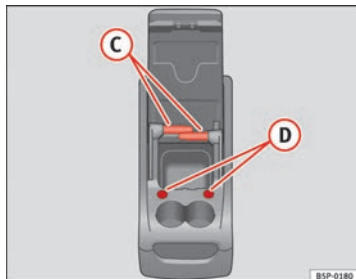

Fig. 114 Mobile storage compartment. Functions
To use the table (C) ⇒ fig. 114, it must be removed from its compartment in the side of the mobile storage compartment and fitted into slot (D) ⇒ fig. 114 on the front section of the mobile storage compartment.